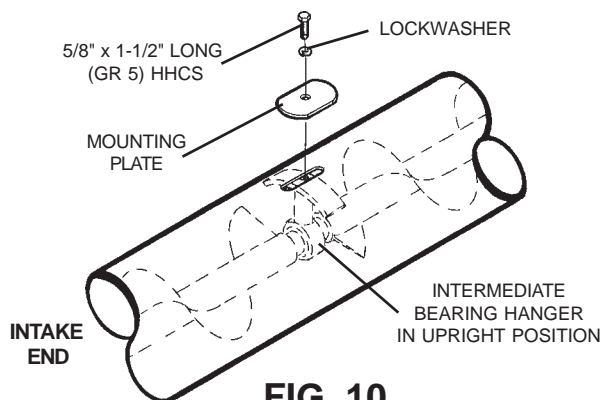

FIG. 10
C. Attach each bearing hanger to the auger housing using a mounting plate, a 5/8" x 1-1/2" long (grade 5) hex head capscrew and lockwasher, as seen in Fig. 10. Before tightening the mounting bolts, adjust the bearing hangers, so they are centered between the ends of the auger flights. (See Fig. 11.) This can be done by sliding the hanger back and forth in the slot to determine the approximate center.